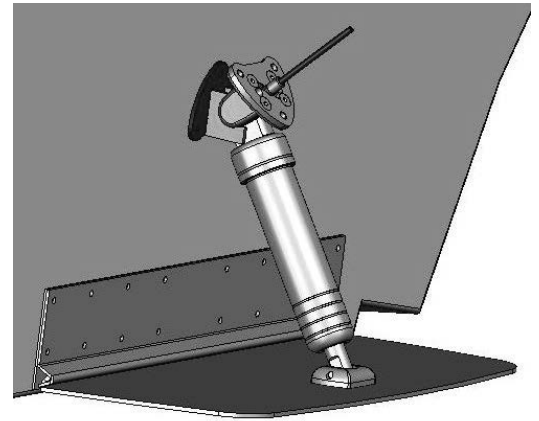

Figure 2
1. Each trim tab is installed as an extension of the hull. To achieve this, position the upper mount of each actuator with the trim tab on the same plane as the hull bottom. Support the trim tab assembly from below in the fully retracted position. Attach an actuator to the trim plane using the supplied 5/16-18 x 5/8" hex head machine screws. Tip back the upper mount such that the wires and the hydraulic ports face away from the transom. Position the assembly template over the end of the upper mount as shown in *Figure 2*. The radius on the top of the uprights should nest fully into the assembly template. This will temporarily locate the position of the upper mount.